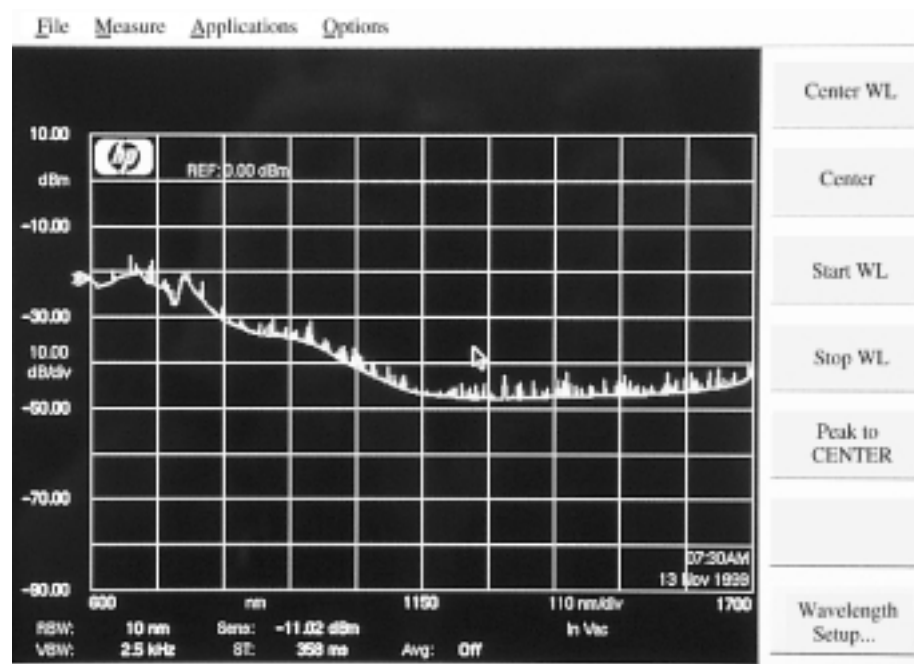

Figure 2-5. Typical Display
The instrument will start and continuously sweep, and will accept front panel and remote commands. The display will be similar to Figure 2-5 on page 2-10.
Use this section to troubleshoot instruments that do not display a screen similar to that shown in Figure 2-5 on page 2-10 after the 3 to 6 minute power-on initialization period.
- After the 25 second initialization sequence, the instrument should resemble Figure 2-5 on page 2-10.